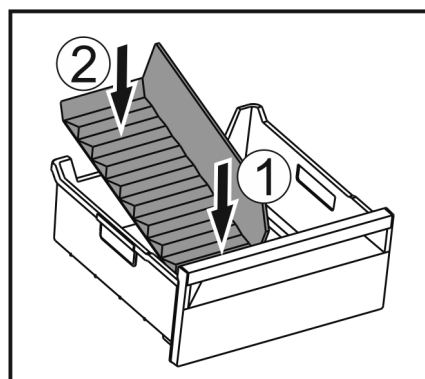

Fig. 127
- ▶ Insert the front part of the ice compartment divider. *Fig. 127 (1)*
- ▶ Lower the rear part of the ice compartment divider to the drawer bottom. *Fig. 127 (2)*